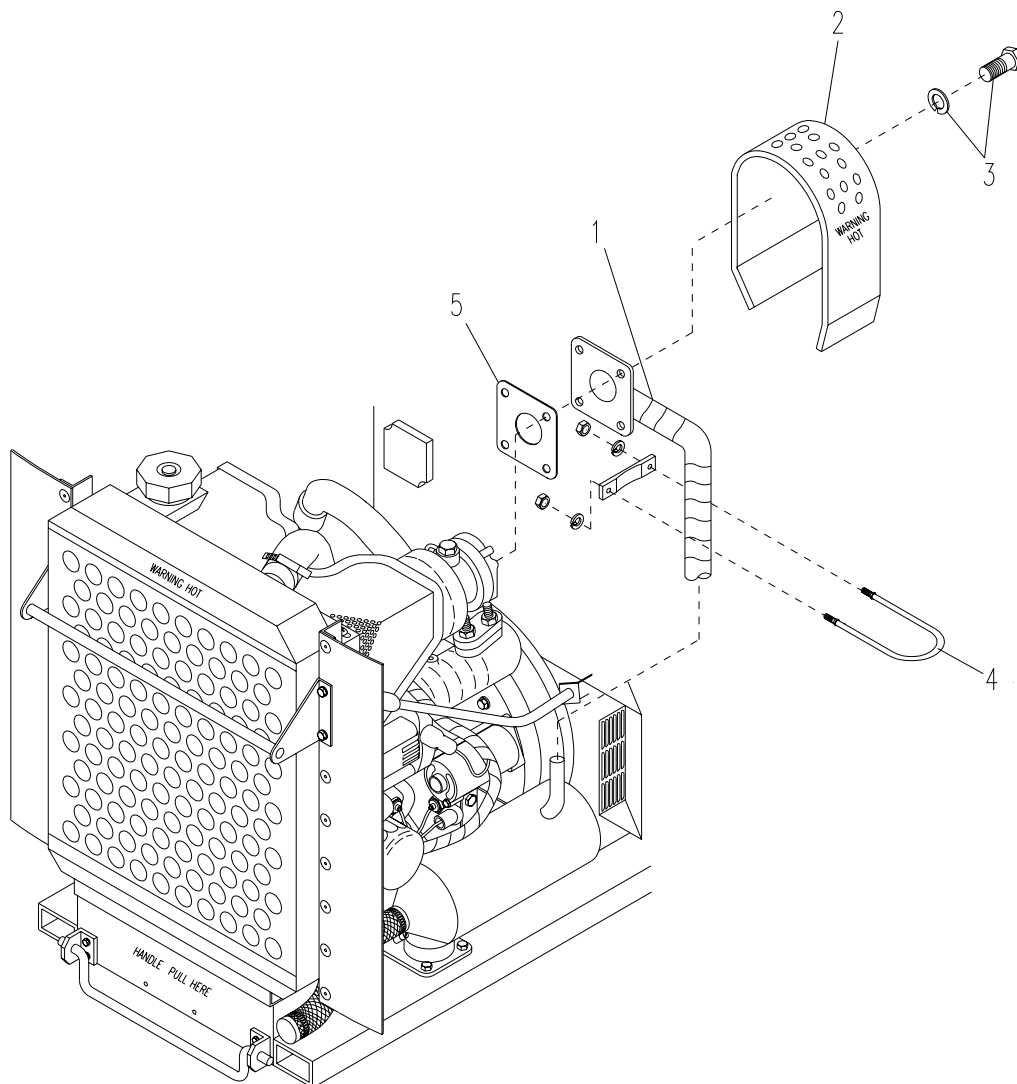

Figure 4-31. Exhaust Pipe (SICPS)
- a. Remove muffler loop clamp (4, Figure 4-31) securing exhaust pipe (1) to muffler.
- c. Remove four bolts and lock washers (3) securing exhaust pipe (1) to turbocharger.